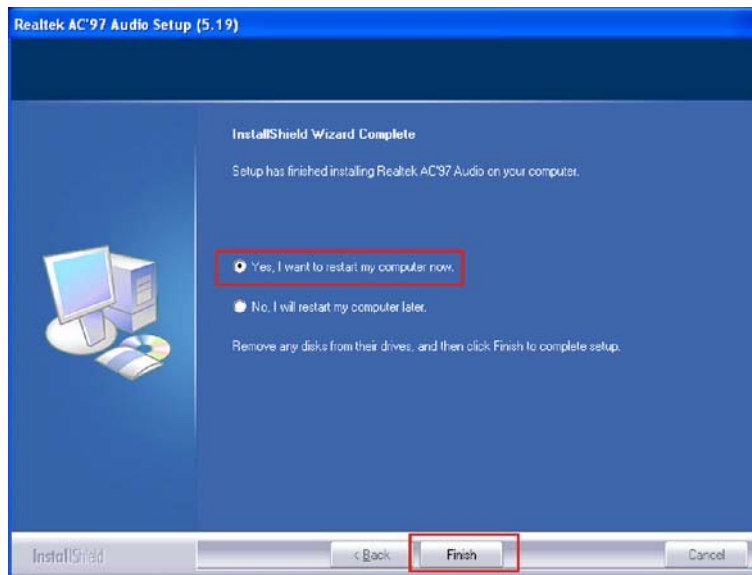

Figure 7-25: AC'97 Driver Installation Complete
Step 6: When the driver is installed, the driver installation finish screen in Figure 7-25 appears.